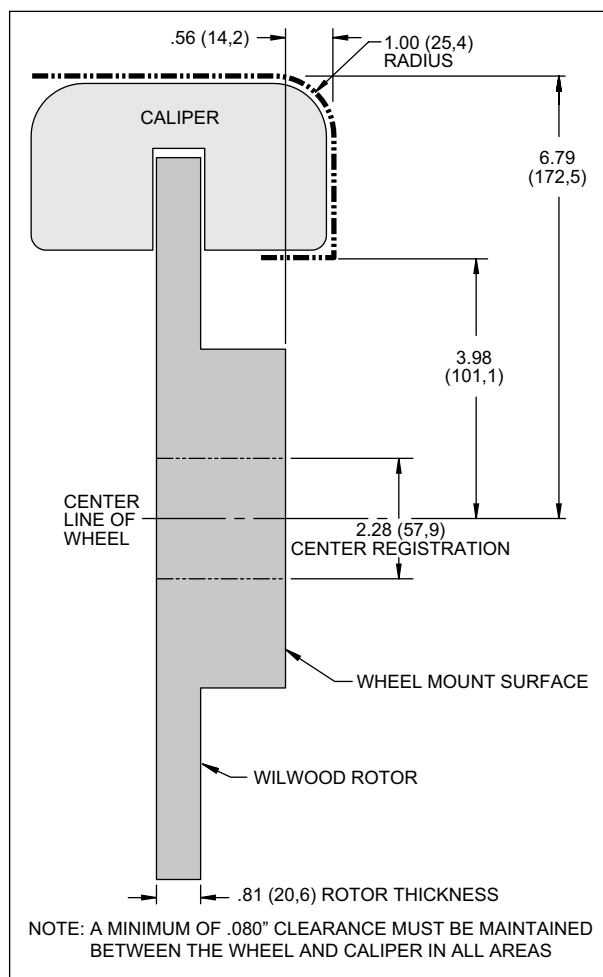

Figure 2. Wheel Clearance Diagram
- Review the wheel clearance diagram (figure 2, page 3) to verify that there is adequate clearance with the wheels you will be using with the installation.
- Verify the hat stud pattern in this kit matches the stud pattern of the vehicle's hubs. **NOTE:** There are two (2) five stud patterns in the hat (5 x 3.94 and 5 x 4.50). Make sure of the correct stud pattern for the wheels being used with this kit.
- Verify your wheel clearance using Figure 2.